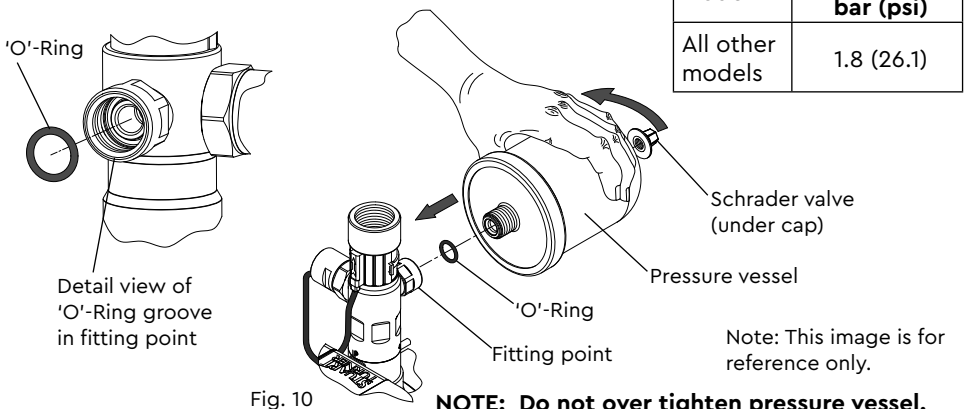

Fig. 10
- Check air charge at Schrader valve (Fig. 10) using a tyre pressure gauge.